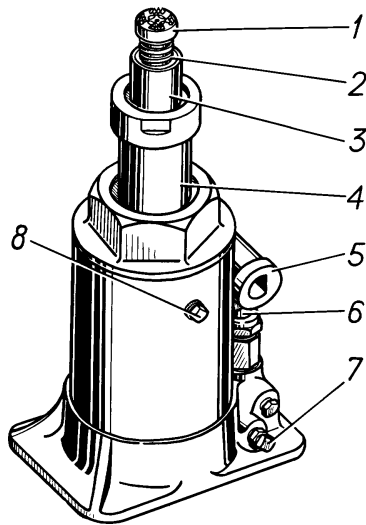

Fig. 9.10. Jack
- place the jack (Fig. 9.10) under front axle beam or rear axle near the wheel to be lifted and drive out screw 2 by hand as far as it will go. In case of loose ground, place a pad or a firm board under the jack base;